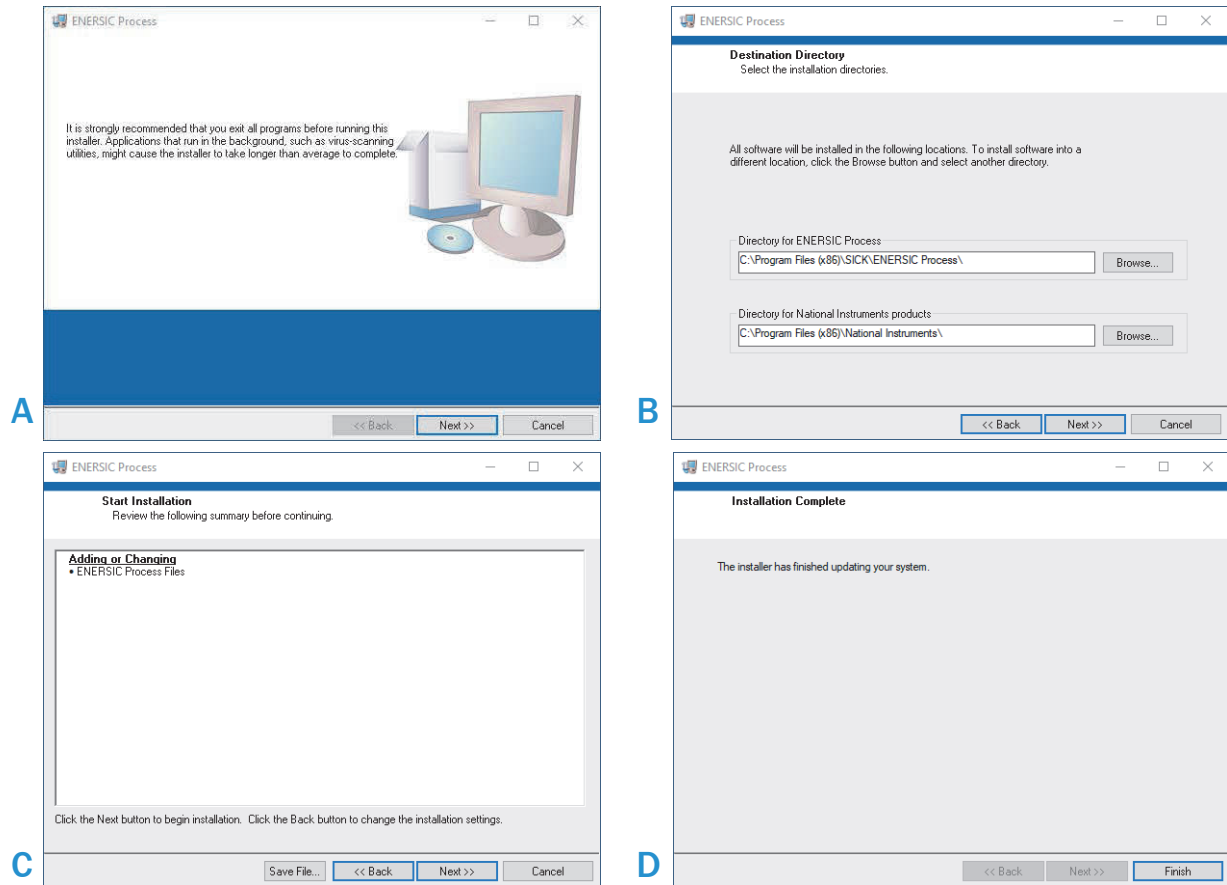

Fig. 1: ENERSIC600 software installation steps
- Each instance requires its own executable. This can be achieved by selecting a different directory for each ENERSIC600 instance during the installation process (see step B in Figure 1).